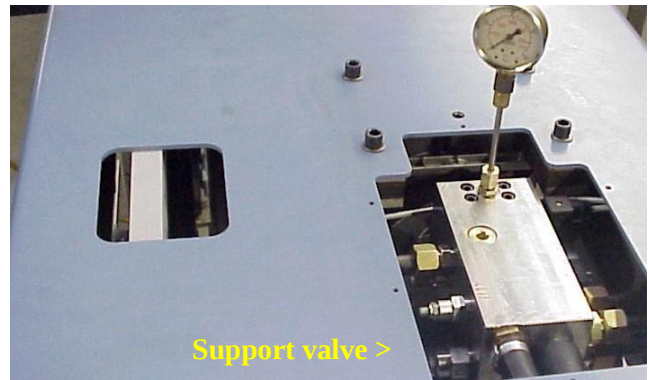

Figure 25: Manometer on hydraulics
The support pressure on the cutting beam is set with the support valve (66) (see fig. 25)